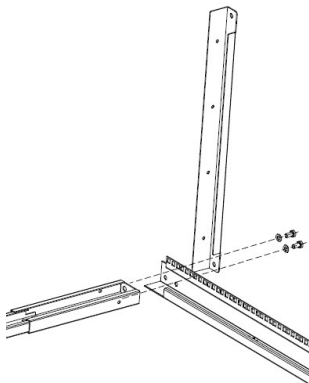

Figure 7
- Insert eight **M8 Bolts** through eight **M8 Washers** and into the holes in the **Top Brackets** and the tops of the **Vertical Rails**. (Figure 7)